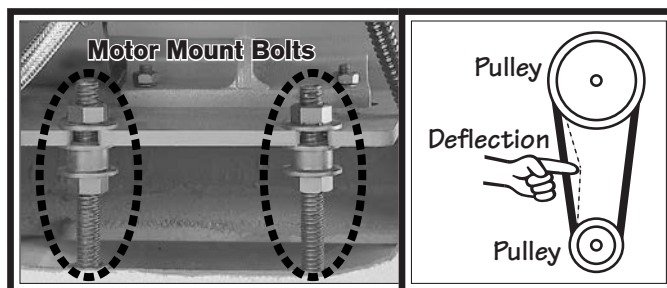

Figure 125. V-belt adjustment.
3. Adjust the hex nuts on the motor mount bolts shown in **Figure 125** to move the motor mount plate up or down and adjust the V-belt tension. When correctly tensioned, each belt should have about 3/4" deflection when pressed firmly (see **Figure 125**).